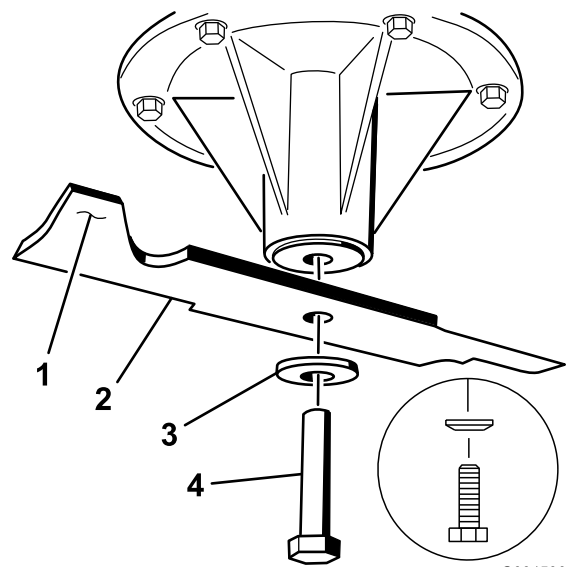

Figure 86
1. Install the left and center blades, curved washers, and blade bolts to the spindle shafts (Figure 86 and Figure 87).
Note: Ensure the curved-washer cone is installed toward the bolt head (Figure 86).
2. Install the right blade, curved washer, and blade bolt (left-hand threaded bolt) to the spindle shaft (Figure 86 and Figure 87).